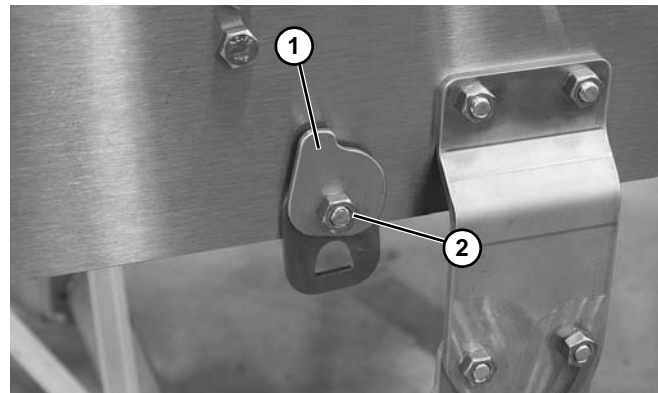

Figure 25
- Install return clip (**Figure 25, item 1**) and loosely secure with nut (**Figure 25, item 2**).